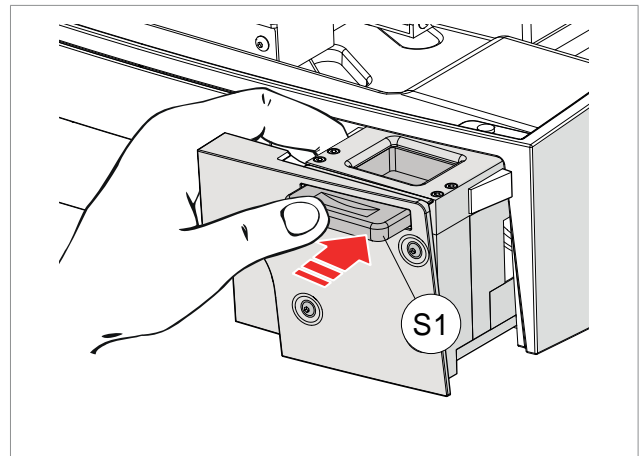

Fig. 97
- 1) Pull the photo reader unit (S) out all the way.
- 2) Hold the unit firmly with one hand and push the handle (S1) (Fig. 97).